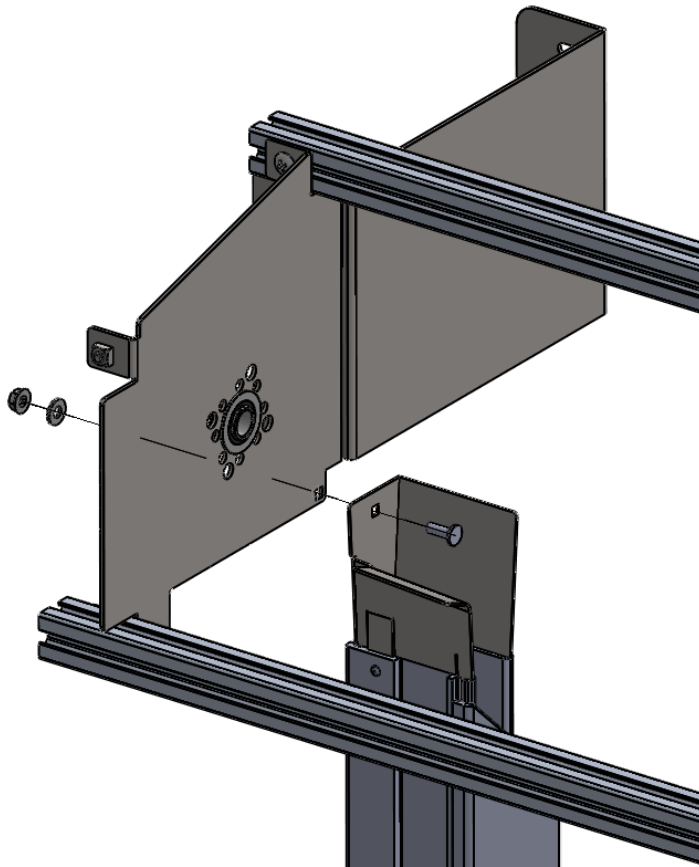

Figure 9 MOUNT TRACK TO HEADER
2. Now align the square hole in the metal Transition Bracket of the Track Assembly with the square bolt hole in the lower mounting tab on the Header bracket above. Note that the Transition Bracket of the Track Assembly should be inside of the Header bracket tab. Insert the carriage bolt from the inside of the transition and the washer and hex nut on the outside of the assembly, as shown. Just snug this hardware for now. (Figure 9 MOUNT TRACK TO HEADER (Figure 9 MOUNT TRACK TO HEADER)